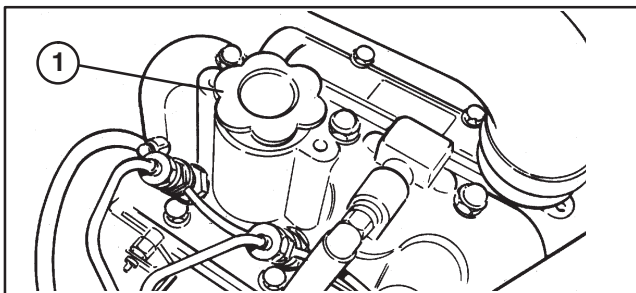

Figure 21
3. If oil level is low, remove oil fill cap (Fig. 21) and gradually add small quantities of oil, checking level frequently, until level reaches FULL mark on dipstick.